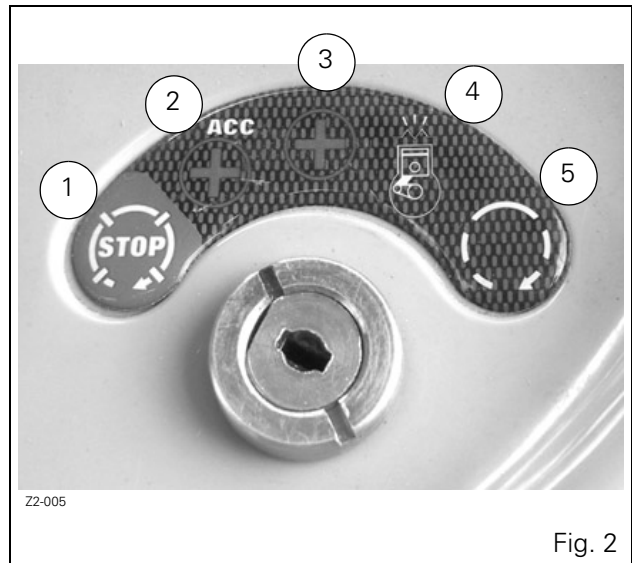

Fig. 2
1. Starter switch (See details in Fig. 2).